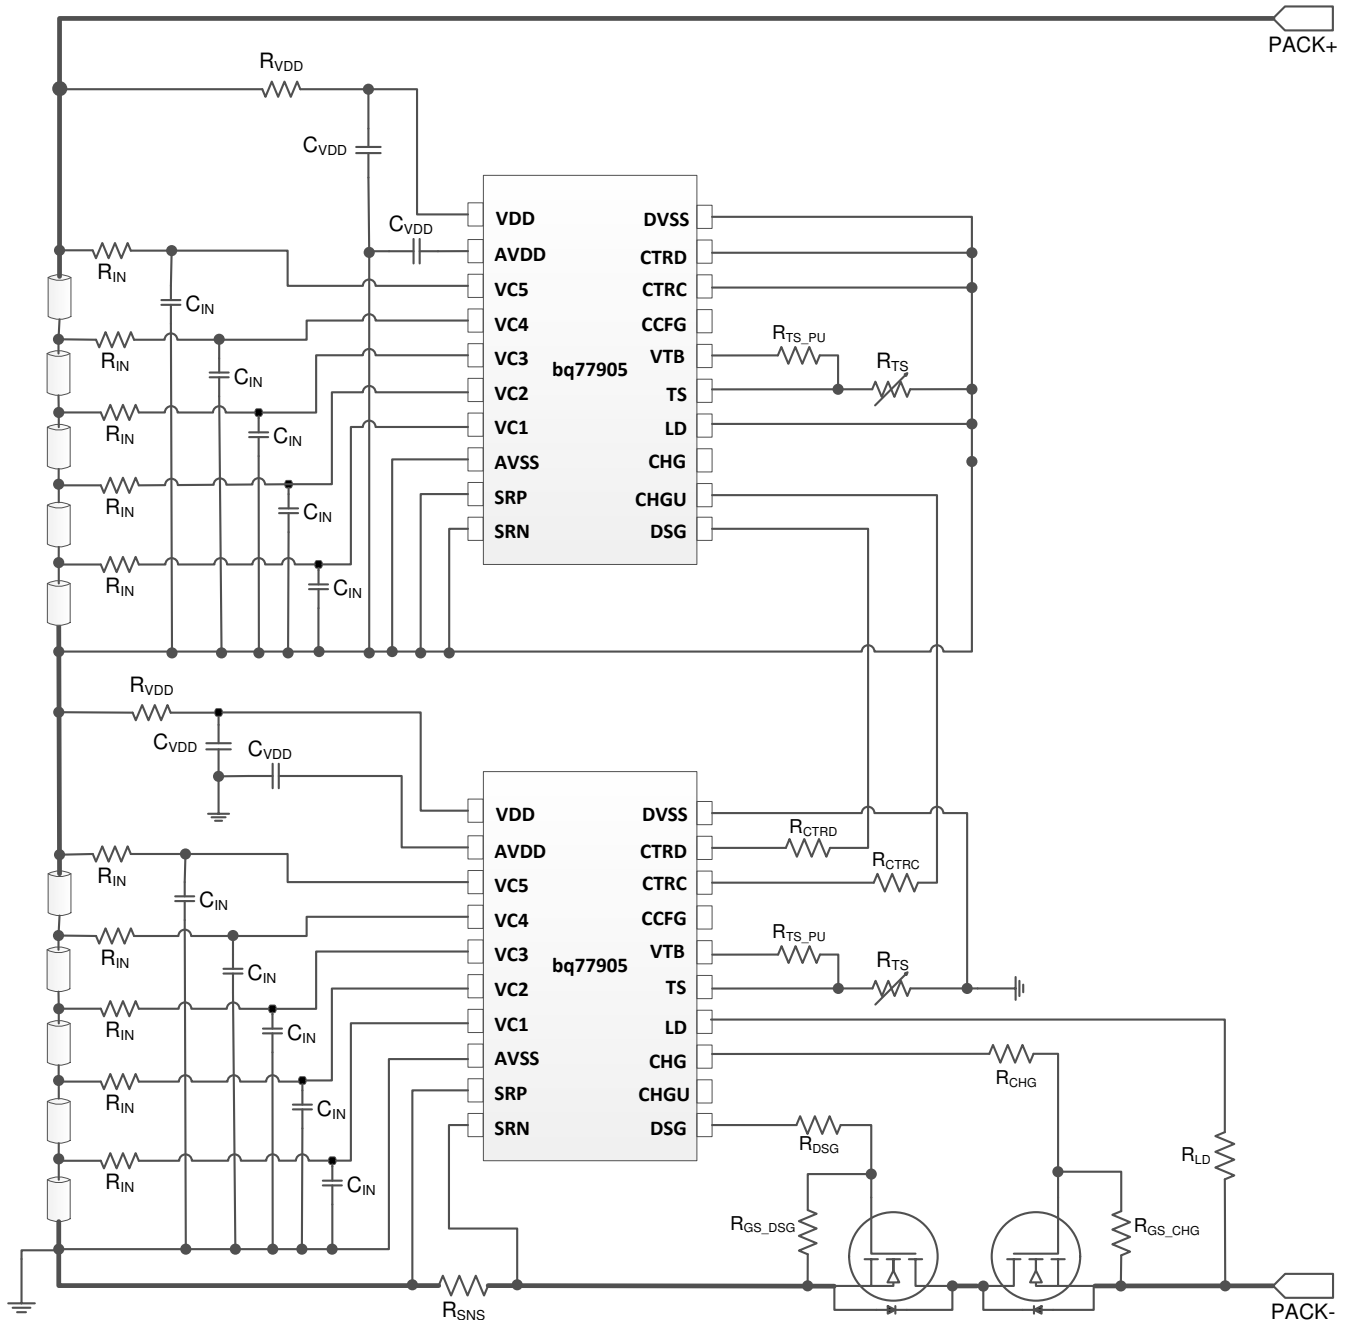
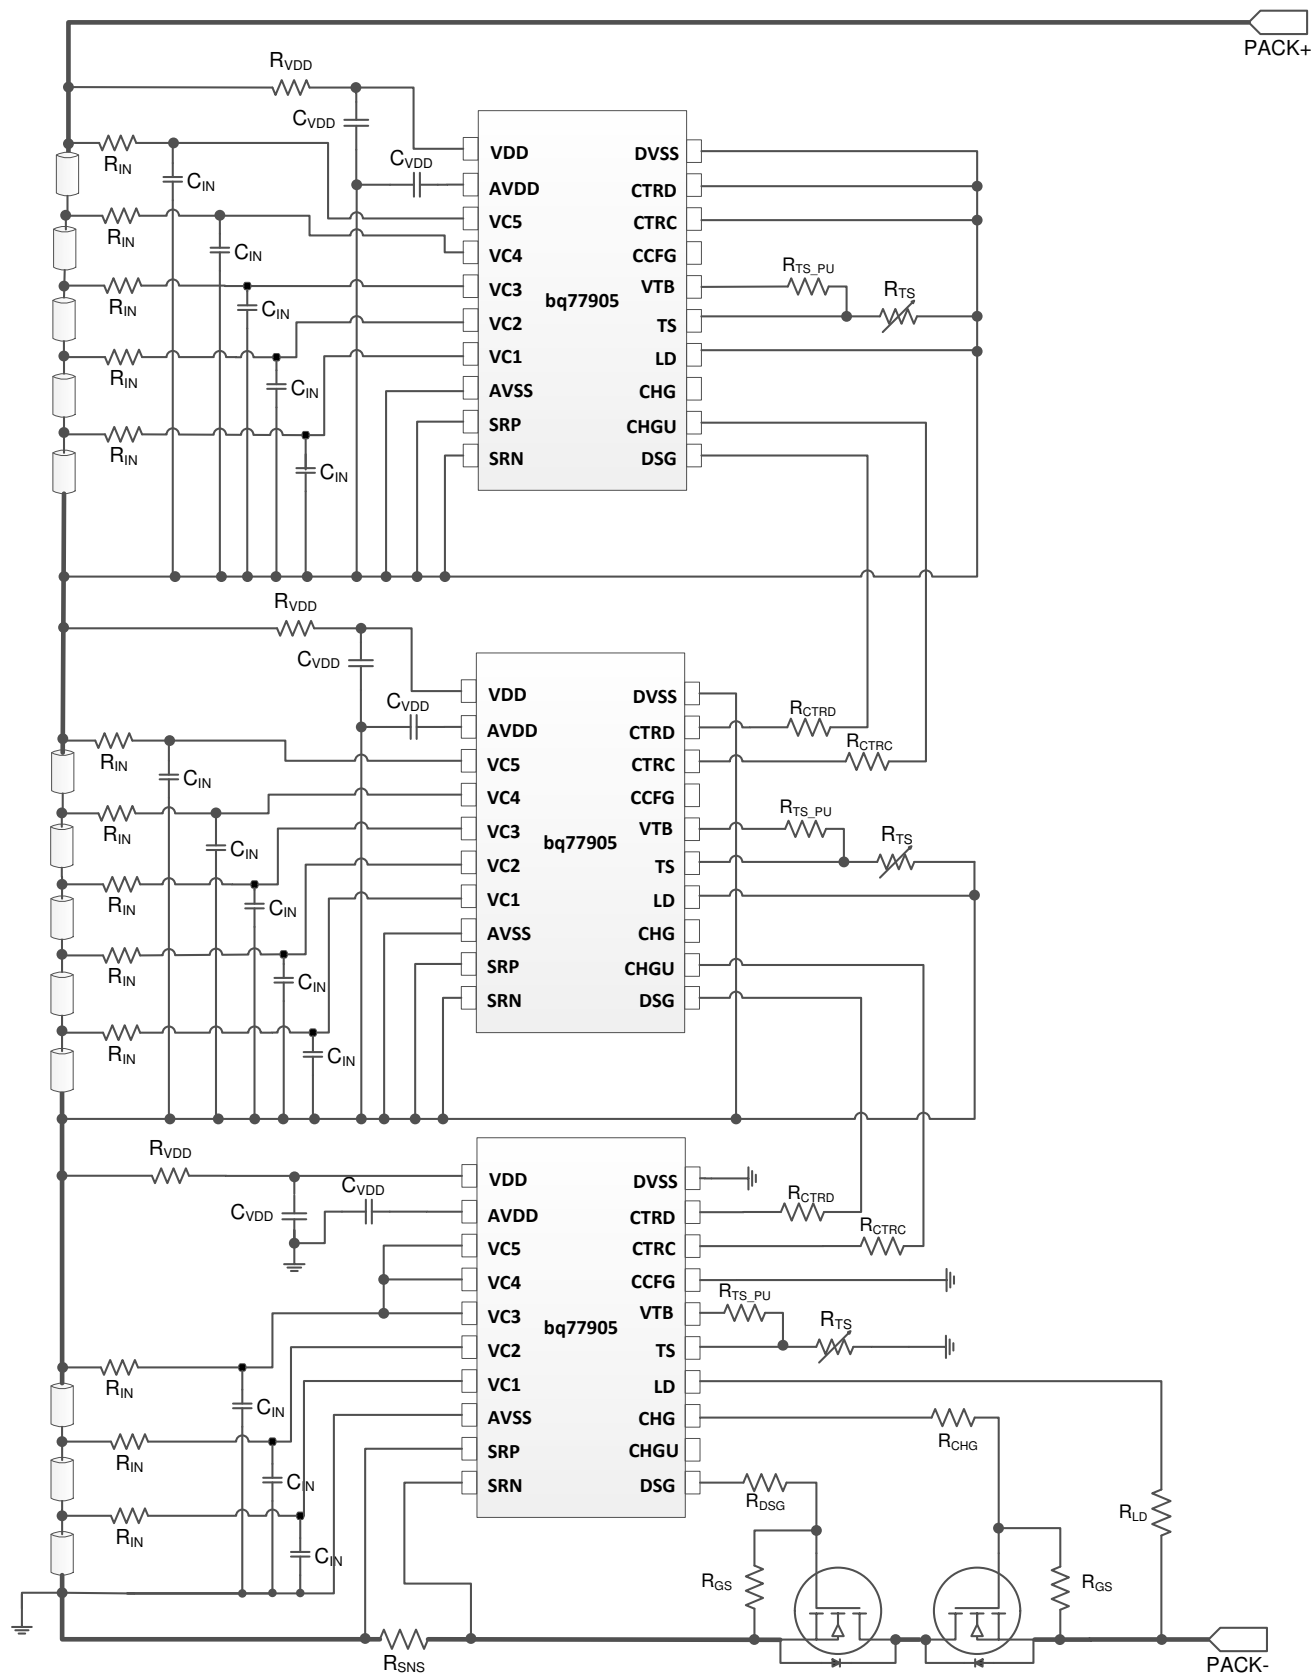
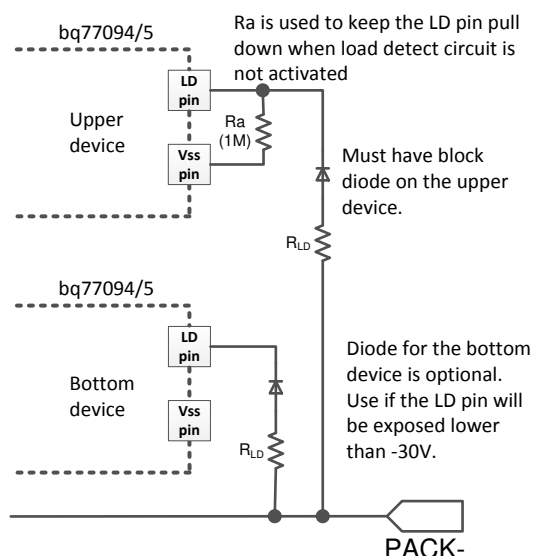

图 8-9. 10S Pack Using Two BQ77905 Devices
图 8-10. 13S Pack Using Three BQ77905 Devices
图 9-7. Simplified Circuit: LD Connection on Upper Device When Using for UV Fault Recovery
- If load removal is not used for UV recovery, connect the upper device LD pin to its AVSS pin, as shown in 图 8-9 and 图 8-10. Otherwise, refer to 图 9-7 for proper LD connection.
To ensure load removal is detected properly during a UV fault, TI recommends to use $3.3\text{ M}\Omega$ for R_{GS_CHG} (instead of a typical of $1\text{ M}\Omega$ when load removal is NOT required for UV recovery). R_{CHG} can stay in $1\text{ M}\Omega$ as recommended when using CHG FET protection components. The CHG FET rise time impact is minimized as described in the Protecting CHG FET section. On a stacked configuration, connect the LD pin, as shown in 图 9-7 if load removal is used for a UV fault recovery. If load detection is not required for a UV fault recovery, a larger value of R_{GS_CHG} can be used (that is, $10\text{ M}\Omega$) and the LD pin on the upper devices can be left floating.